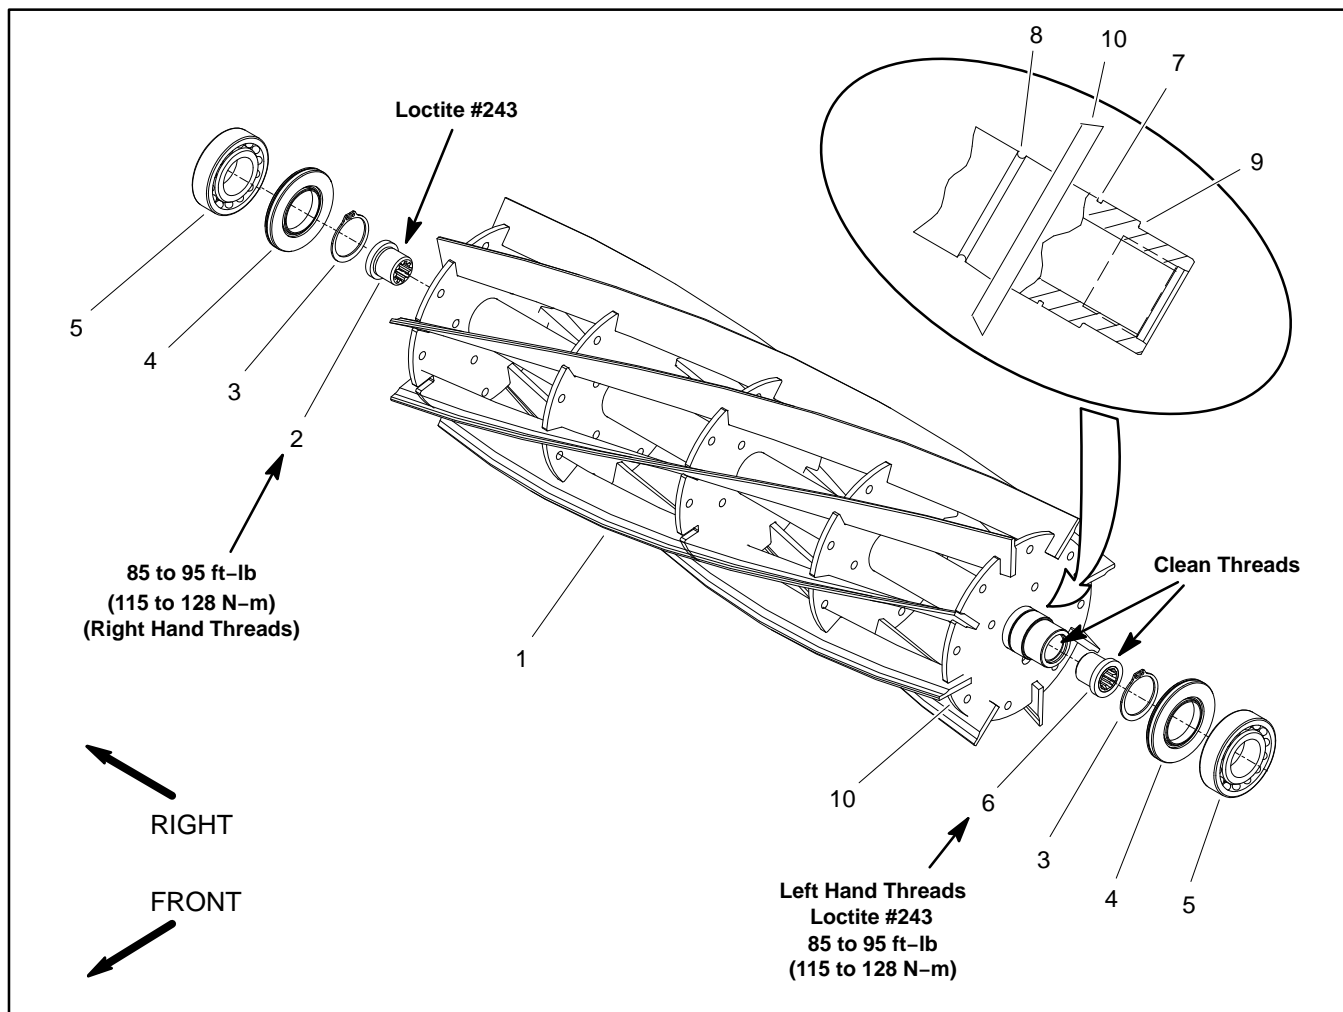

Figure 36
Inspection of Cutting Reel (Fig. 36)
A. The threaded inserts are installed with thread locking compound (Loctite #243 or equivalent). One insert has LH threads and the other RH threads. The insert with LH threads has an identification groove on the flange face. A groove on the reel shaft identifies the reel end that has LH threads (see illustration in Fig. 36).
Assembly of Cutting Reel (Fig. 36)